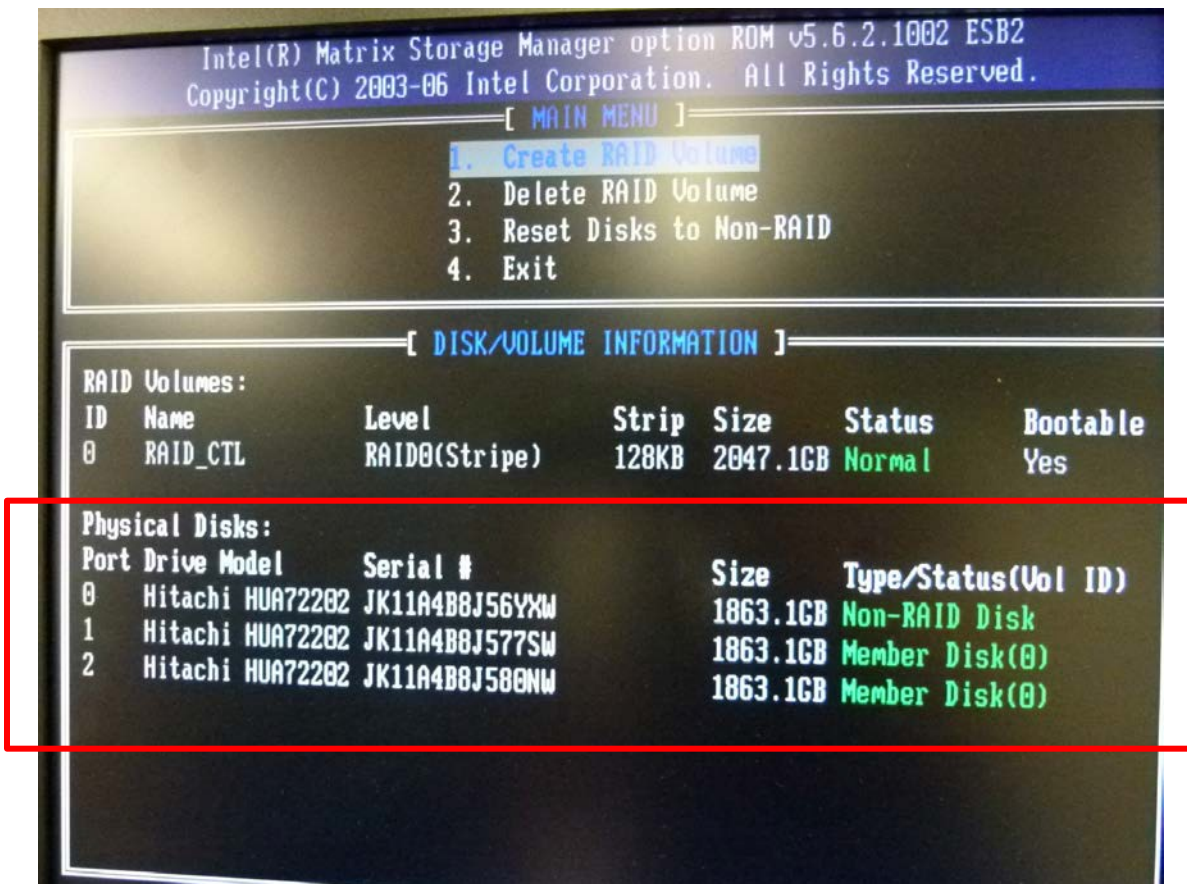

Figure 47: RAID Setup [Main Menu] showing list of operational discs
2. During boot up, system will list all recognized drives and prompt user to enter RAID setup. Enter **CTRL-I** to enter RAID setup, shown in **Figure 47**.